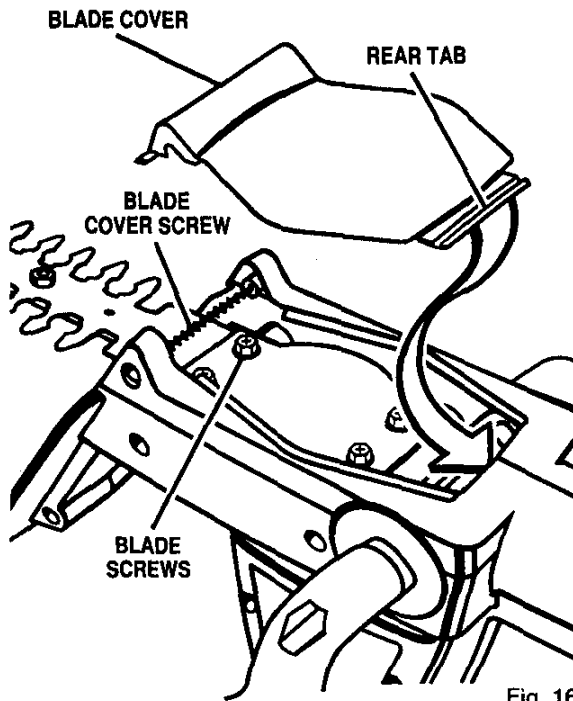

Fig. 16
■ Replace blade cover screw. See Figure 16.